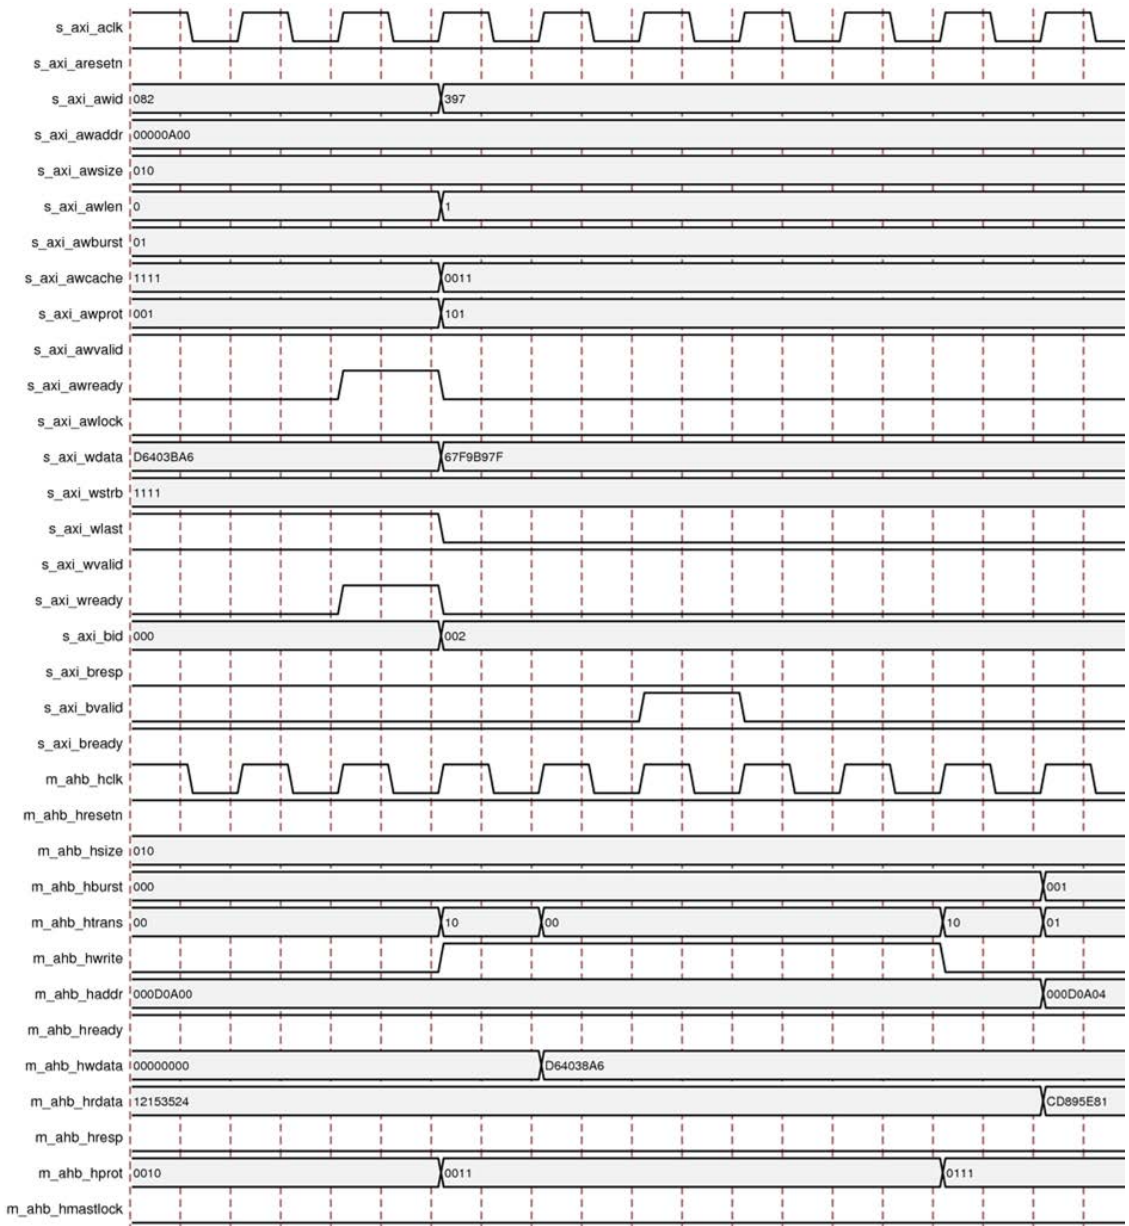

Figure 3-2: AXI4 Incrementing Burst Write Transfer of Length 1
2. AXI4 incrementing burst write transfer of length 1 is shown in Figure 3-2.